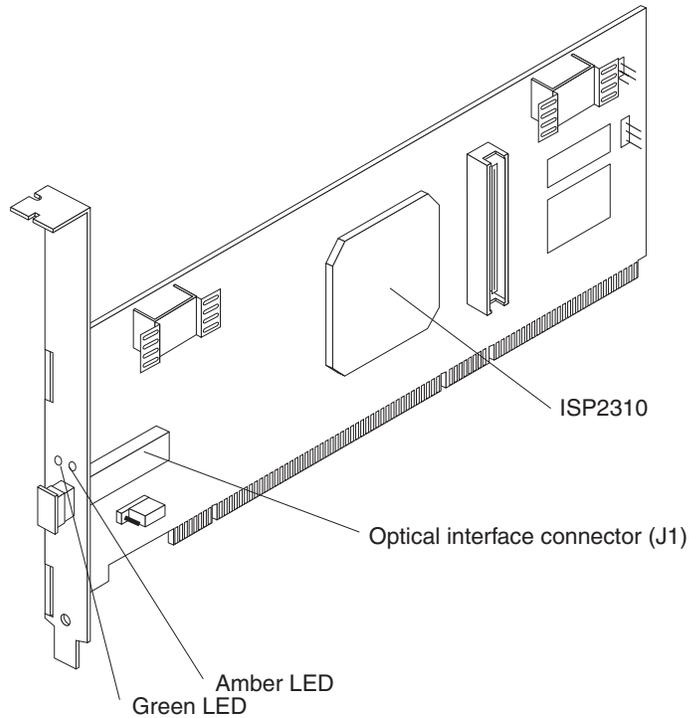

Figure 2. FASTt FC-2 Adapter components
The IBM FAStT FC-2 Host Bus Adapter is a 2 Gb high-performance, direct memory access (DMA), bus master, Fibre Channel host adapter designed for high-end systems. The function and performance are derived from the ISP2310 chip (see Figure 2 on page 4), making this IBM FAStT FC-2 Host Bus Adapter a leading-edge host adapter.
Figure 2 identifies the FASTt FC-2 Adapter (QLA2310) components that are referred to in this chapter.
The FAStT FC-2 Adapter comes with an attached standard 3U adapter bracket as shown in Figure 2 on page 4. An additional Low Profile 2U bracket also comes with the adapter. Before you install the FAStT FC-2 Adapter, verify whether you need the Fibre Channel Low Profile 2U adapter bracket. If you need to install the Low Profile 2U bracket, go to step 1. Otherwise go to step 2.
8. Connect one end of an LC-LC Fibre Channel cable to the optical interface connector (located at J1) on the FAStT FC-2 Adapter. Connect the other end to a Fibre Channel device. (See Figure 2 on page 4 for the location of the J1 connector.)